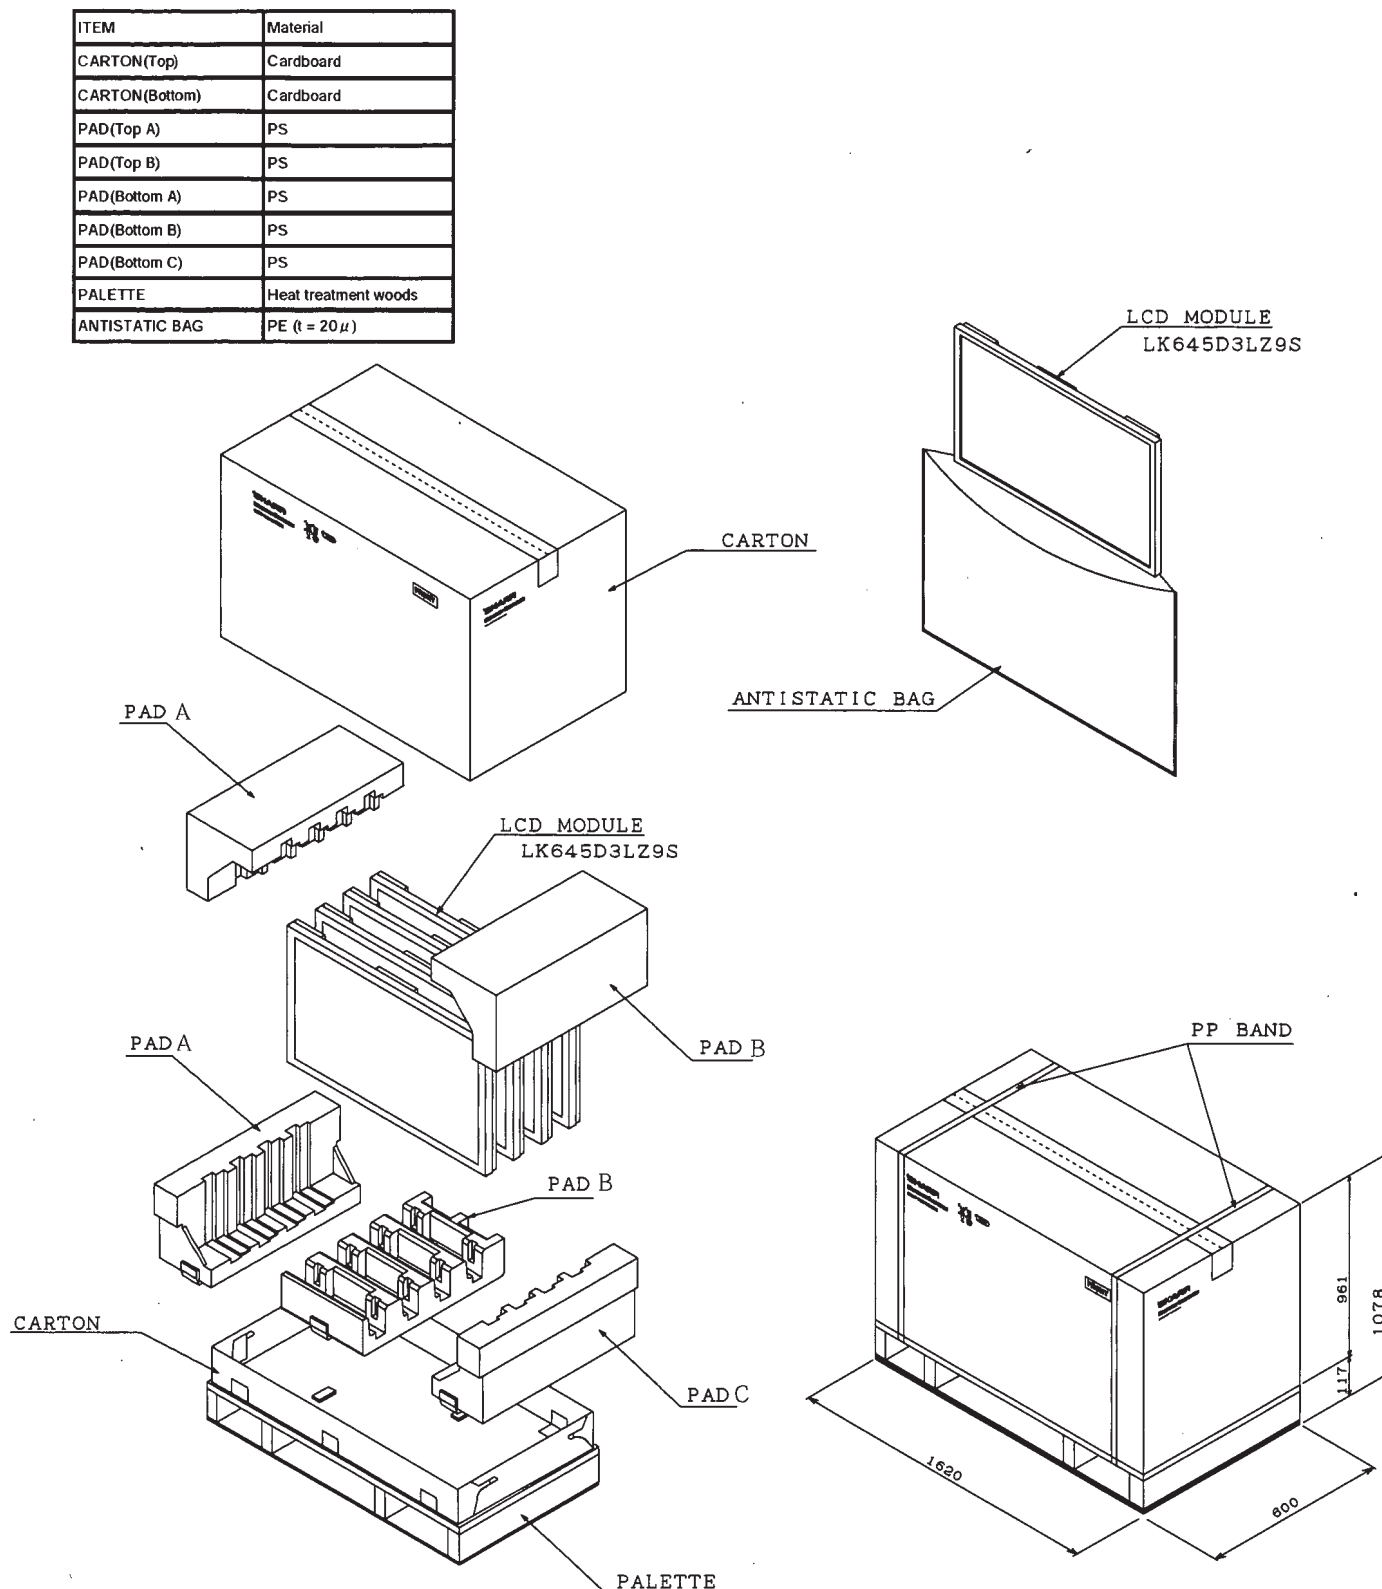

Fig. 6 Packing Form
- c) Carton size: 1620 (W) × 600 (D) × 1078 (H)
- e) Packing Form are shown in Fig 6.